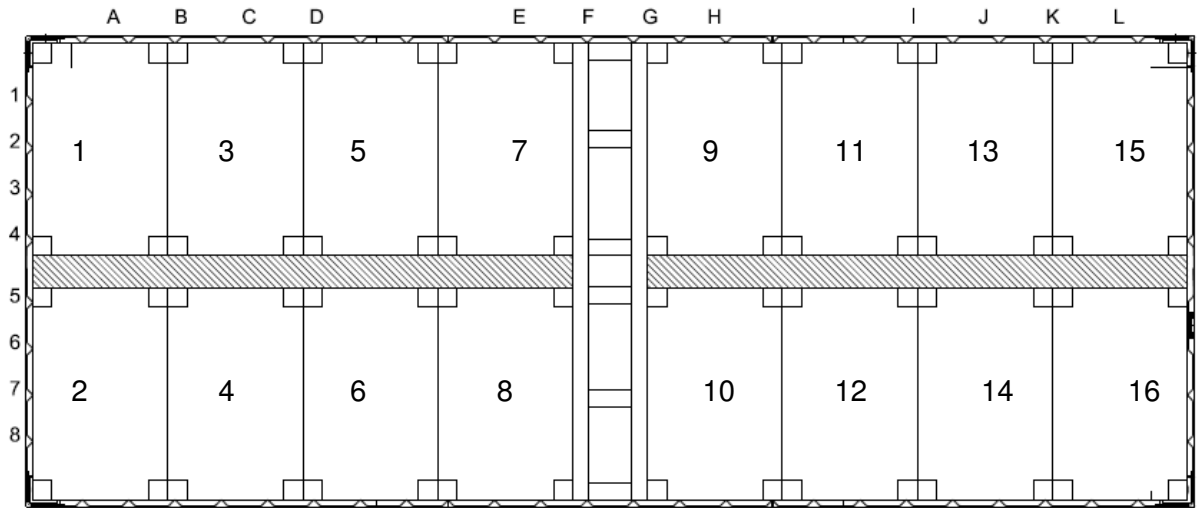

Figure 1
- Suitable blocking for the container as shown in figure 1. Approx dimensions are as follows (L x W x H):
Place the Berglof boxes into the container. The boxes shall sit up against the container walls as shown in in Figure 1. Note the lifting straps that are used to lift the boxes into the container shall remain with the boxes to enable removal of the boxes at the receiving facility.